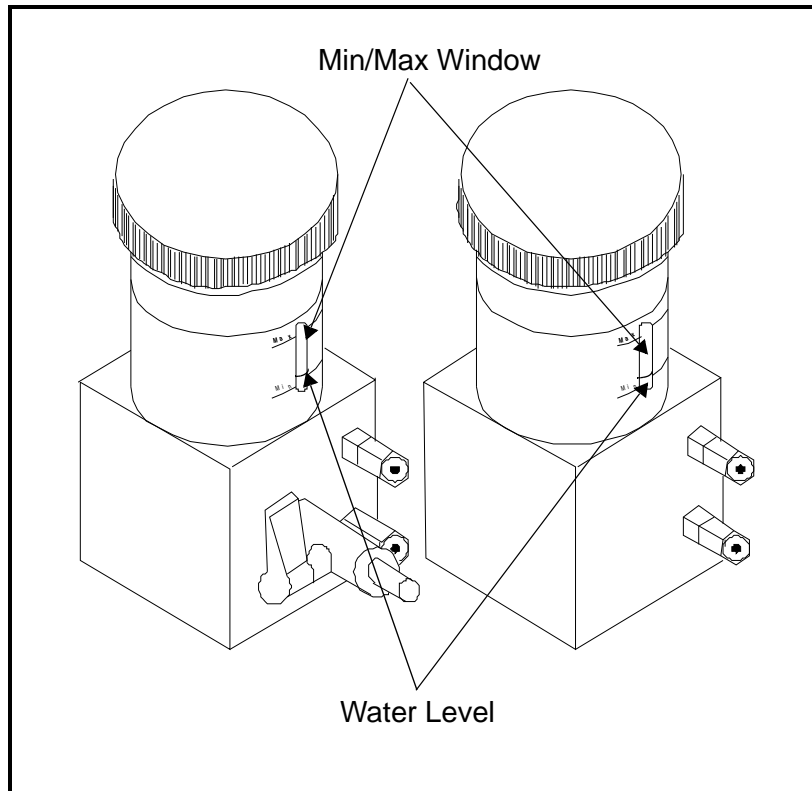

Figure 2: Delta F Oxygen Cell Water Level Window
3. Using the min/max window on the oxygen cell, check the water level (see Figure 2 on page 3). The water should cover about 60% of the window.